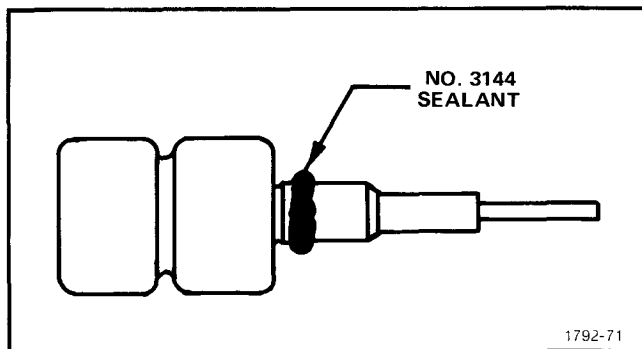

Fig. 5-18. Application of sealant to FINE control bushing.
18. Install FINE POSITION control (See Figs. 5-18 and 5-19)
1. Form a bead of No. 3144 sealant around the bushing threads as shown in Fig. 5-18.